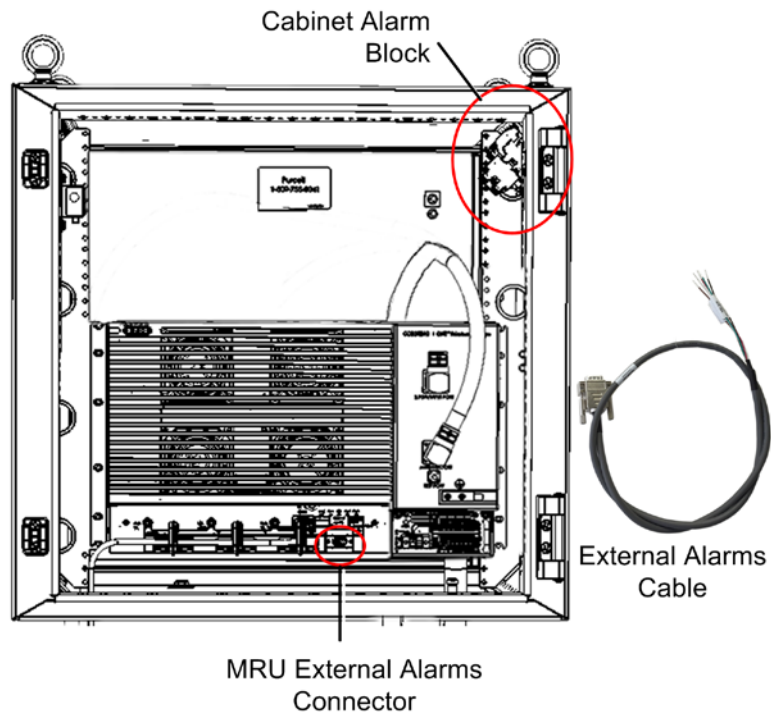

Figure 4-21. Location of External Alarms Connector and Cabinet Alarms Block
2. Route the cable alarm wires to the alarm block, located on the upper right corner of the cabinet. See Figure 4-21.